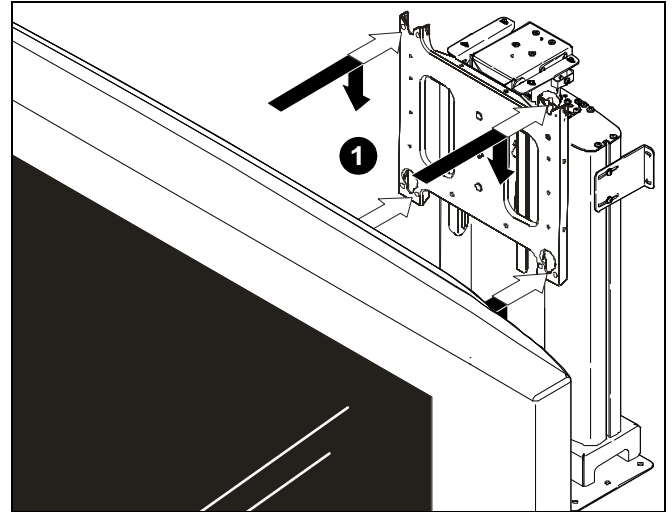
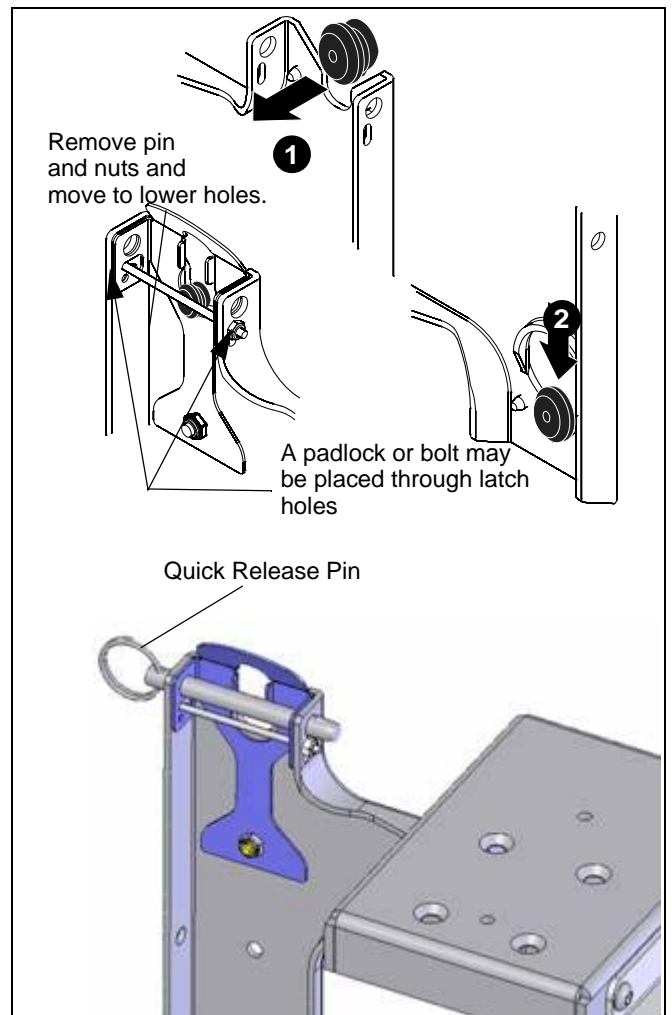

Figure 9:
Figure 10
1. While supporting both sides of display, align four mounting buttons on display or interface bracket with four mounting holes in faceplate. (See figure 9) and (See figure 10)
2. Lower display into place listening for audible "click" to ensure recessed area of mounting buttons are properly seated in lower area of mounting holes and "click lock" mechanisms have engaged. (See figure 9) and (See figure 10)
3. Install two quick release pins (included) to secure display after installation. (See figure 10)
NOTE: Holes are provided in the faceplate for use with a padlock or similar locking device, if desired. In addition, the pin and nut may be removed from the upper holes and moved to the lower holes for use as a more permanent locking device. (See figure 10)